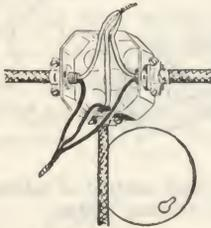

Fig. 9-16. A junction box contains only the splices of several lengths of cable.
**Junction Boxes:** Sometimes it is necessary to make a T connection in cable, when there is a long run and no convenient outlet from which to start the T branch. In that case, use an outlet box, run the three (or more) ends of cable into it, splice all black wires, all white; cover with a blank cover, and the job is finished. See Fig. 9-16. Such junction boxes must always be located *where permanently accessible*.
**Using the Cable:** After you have prepared the ends of the cable with bushings and connectors, install the cable in the same way as described for nonmetallic sheathed cable in the previous chapter. The problems concerning correct colors of wire are exactly the same as with nonmetallic sheathed cable. As with nonmetallic cable, splices are not permitted; the cable must be in one piece from box to box. If a splice is necessary, make it in a junction box as shown in Fig. 9-16.